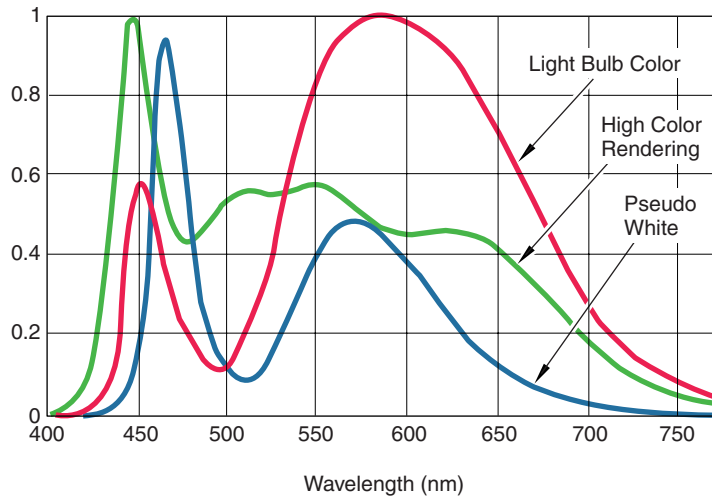

Figure 6: LED lighting module output. Note the lack of power output in the infrared or ultraviolet bands.
In the visual spectrum for an LED [Figure 6], note the lack of infrared energy (IR) and ultra-violet (UV) output from the device. This narrower light output spectrum has several positives. When used in outdoor fixtures, LED-based lighting lacks the UV output that draws insects. Indoors, the lack of IR output means that energy-to-light conversion inefficiencies aren't transferred to the objects being lit. Whatever is being lit will be bright without being heated by the luminaire.